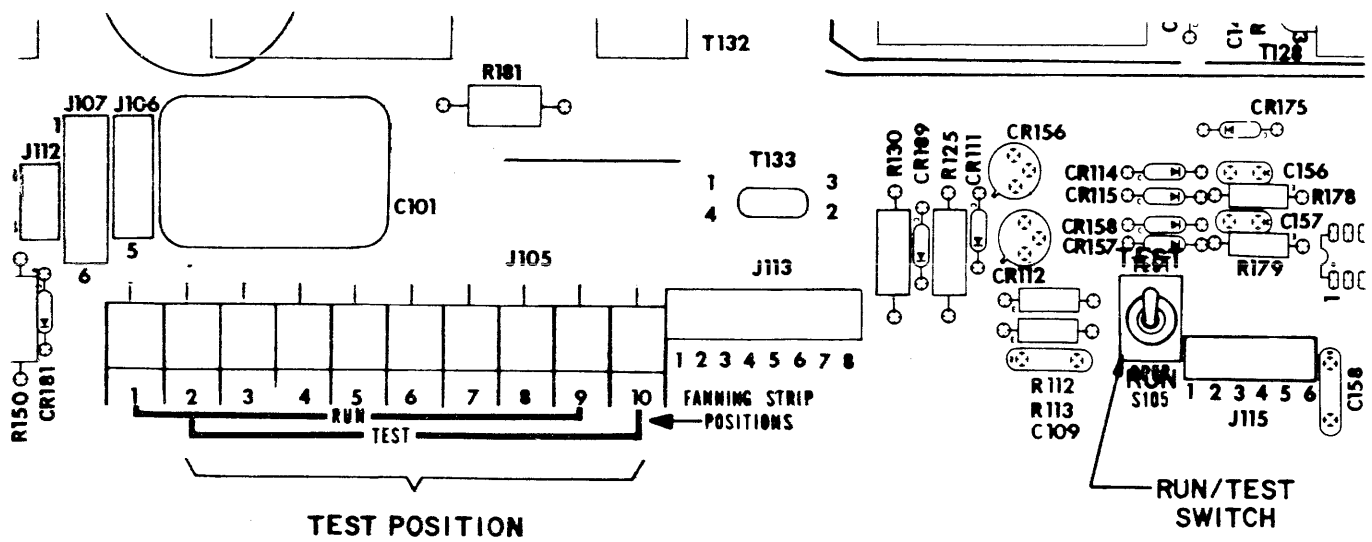

Figure 5-4. RUN/TEST Mode Selection
- b. Move the RUN/TEST switch (S-105) to the TEST position. Refer to figure 5-4.
- c. Transfer the movable fanning strip to the TEST position. This will involve loosening all screws holding the strip in place, and moving the lugs, as a group, one position to the right. Retighten the screws. Refer to figure 5-4.